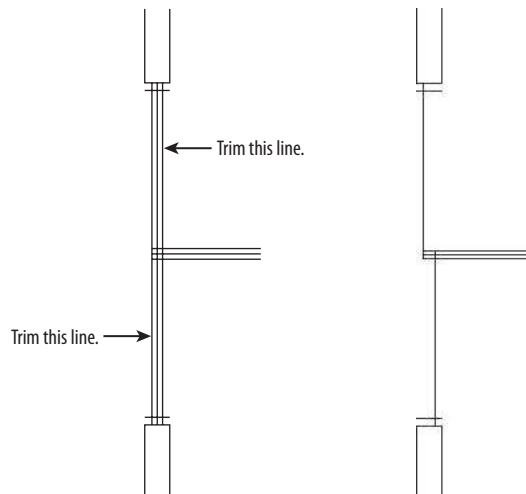

FIGURE 4.67: Picking the vertical lines to trim (left), and the result (right)
20. Trim the two outside vertical lines by selecting them, as shown on the left of Figure 4.67. The result is shown on the right.